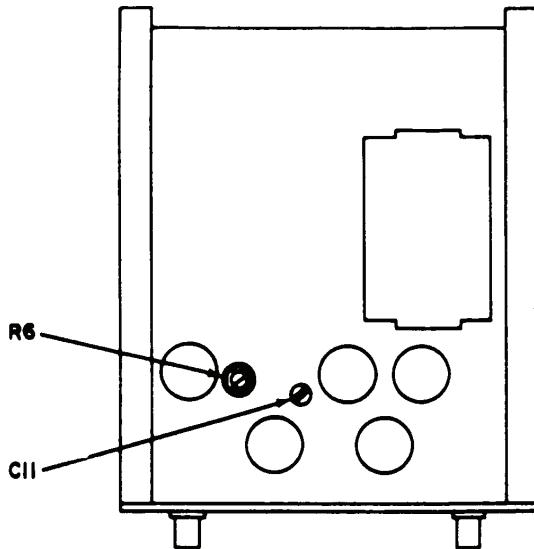

Figure 1. Model 450A.
- (1) Adjust R6 (fig. 1) for a 10-V indication on multimeter (R).
- (1) Adjust C11 (fig. 1) for an in-tolerance indication (R).
- (2) Adjust function/arbitrary generator output to minimum and repeat **a** (2) through (7) above.